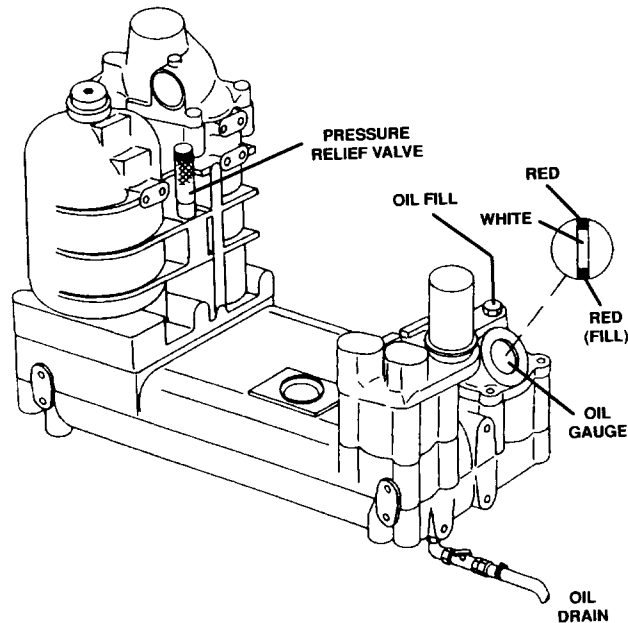

Figure 5-4 – OIL LEVEL GAUGE, OIL FILL AND OIL DRAIN
PROCEDURE FOR CHECKING OIL LEVEL (Figure 5-4, page 30) - Check the oil level when the compressor is shutdown and the oil/air mixture has separated. The oil should be visible in the white range (a flashlight must be used) of the gauge. If there is only red showing on the gauge, the oil level is too high and must be drained. If the oil level is in the red range below the white range, the oil level is too low and oil must be added.
7. Add oil, if necessary, to bring level to the white range on the oil level gauge (Figure 5-4, page 30).
OIL LEVEL GAUGE (Figure 5-4, page 30) - The oil level gauge indicates the amount of oil in the air/oil reservoir. Read oil level only when the unit is shut down and the air/oil mixture has separated. Add oil only when the oil level is in the bottom red range, below the white range on the gauge (you must use a flashlight). Drain oil only when the oil level is in the upper red range above the white range on the gauge (you must use a flashlight).